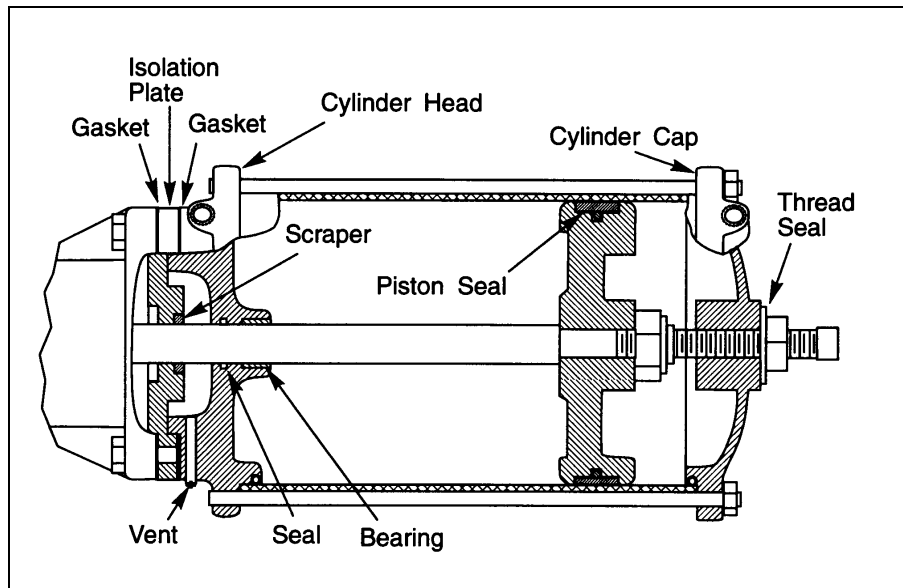

**Figure 1—Piston Rod Seal Placement**
1. Install the piston rod seal as shown in Figure 1.